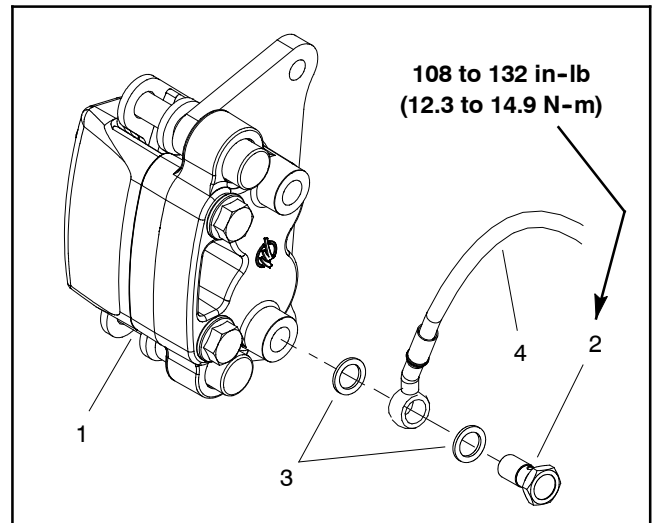

Figure 14
4. Disconnect brake line from front caliper (Fig. 14):
C. Carefully separate brake line from caliper. Locate and retrieve two (2) banjo washers from sides of brake line fitting.
5. Remove two (2) socket head screws that secure the brake caliper to the spindle.
3. Align caliper mounting holes with spindle. Secure caliper with two (2) socket head screws. Torque screws from **35 to 40 ft-lb (48 to 54 N-m)**.
4. Connect brake line to front brake caliper (Fig. 14):